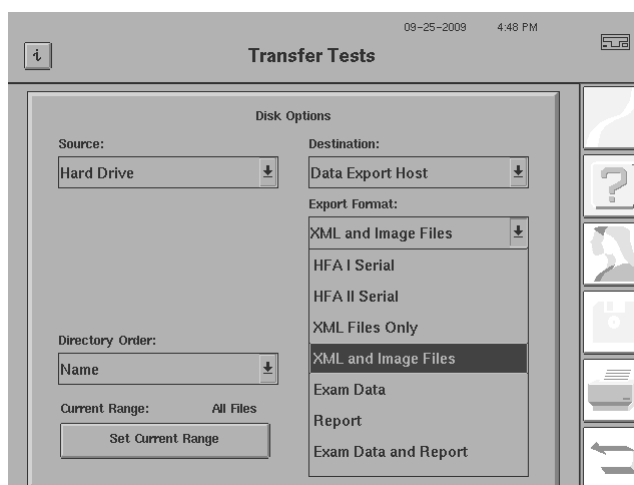

Figure 14.35 Transfer Tests Screen (with Export Format: drop-down box open)
- 5 From the Export Format drop-down box select XML AND IMAGE FILES (Figure 14.35).